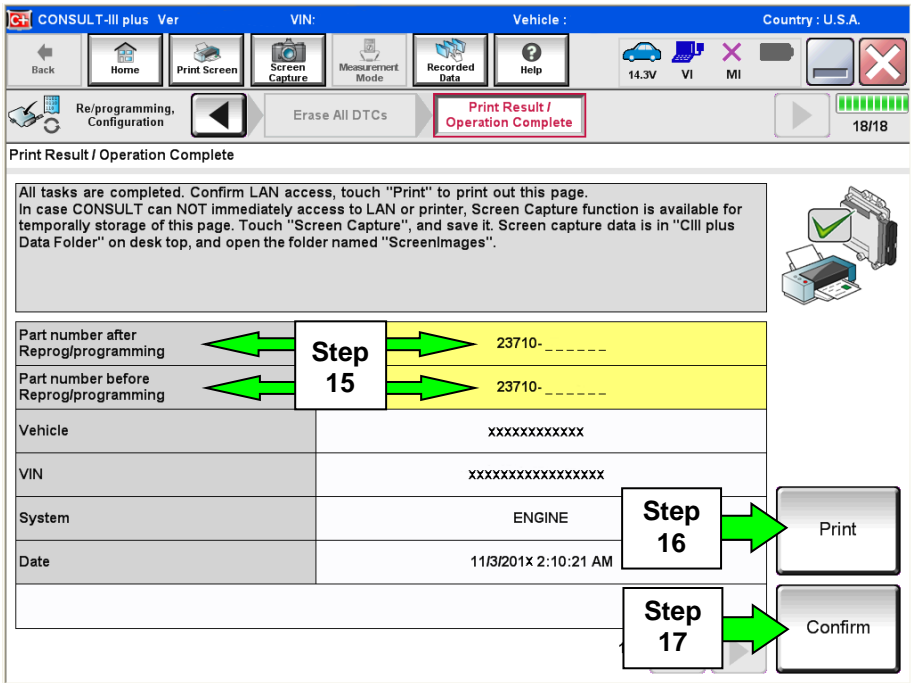

Figure 8
- 14. When the entire reprogramming process is complete, the screen Figure 8 will display.
- 16. Print a copy of this screen (Figure 8) and attach it to the repair order for warranty documentation.